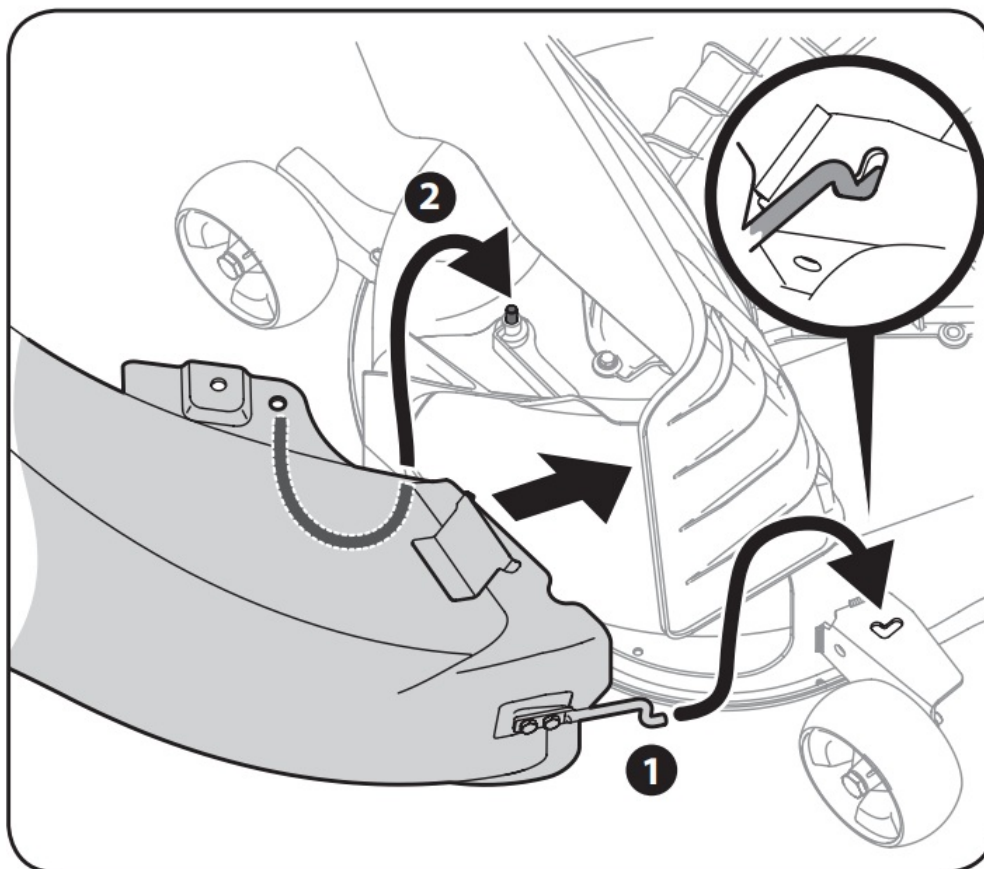

Figure 4-22
4. Insert the end of the discharge chute elbow (1) into the hole provided in the deck wheel mount as shown in the inset of Figure 4-22.
5. Pivot the discharge chute rearward until the hole in the discharge chute elbow aligns with the pin on the deck adapter. Move the discharge elbow down onto that pin as shown in 2 of Figure 4-22.